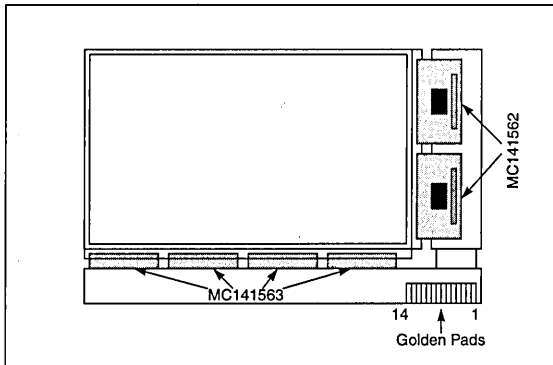

Figure 1 EVK Layout
* Only connected to the EIO4 of the lower MC141562 indicated in Figure 1.